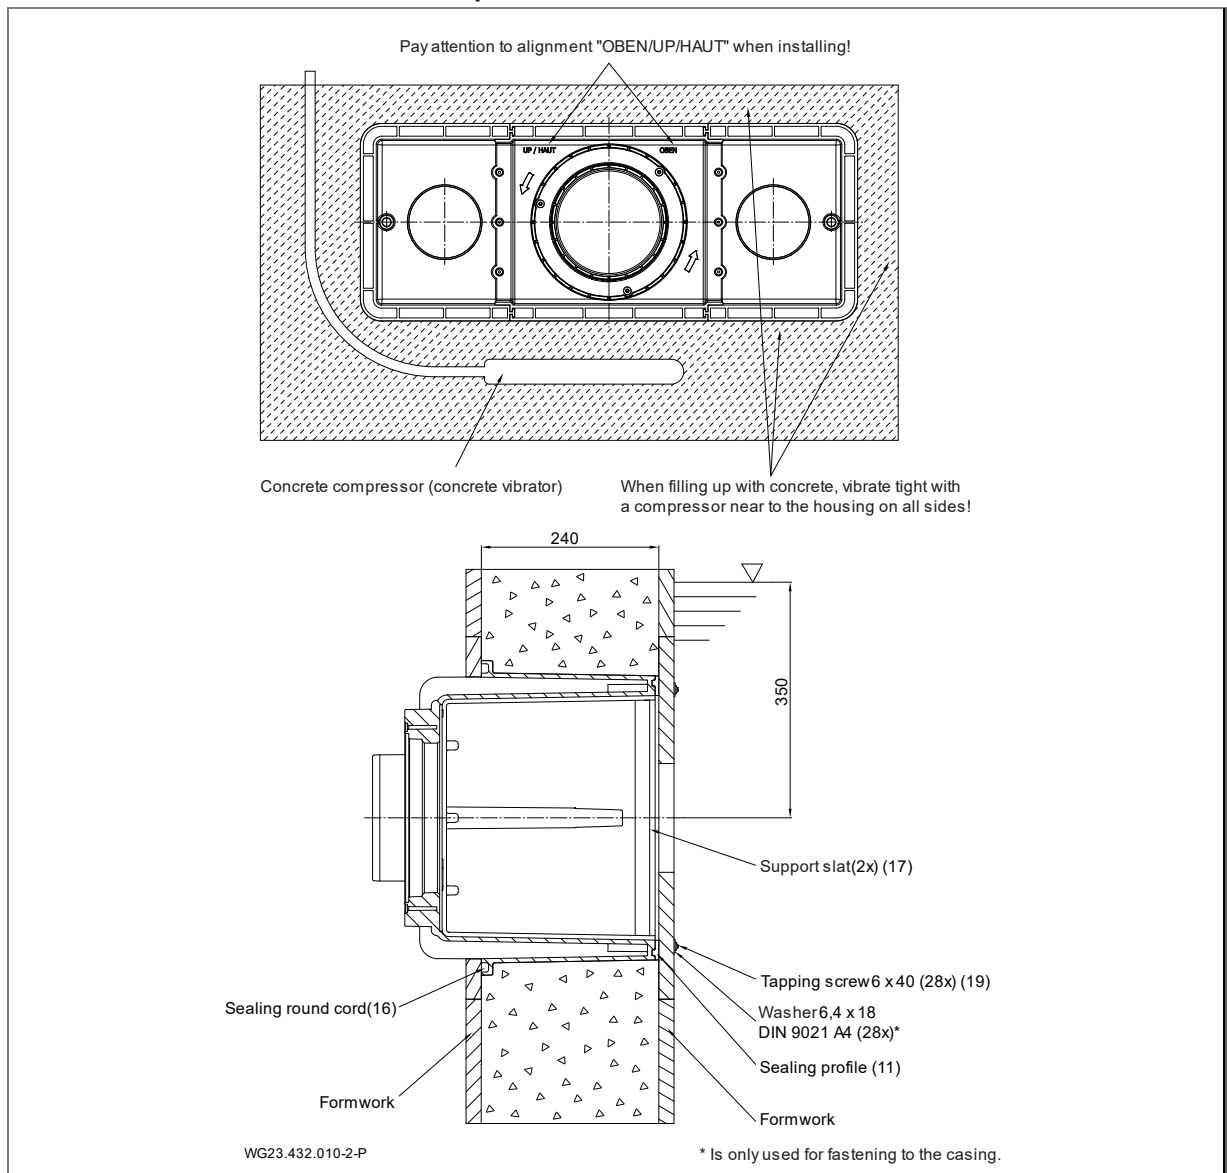

Fig. 6
It is recommended to lay a surrounding ring of epoxy resin/quartz sand at the pool-side outside wall of the housing (1) as a seal to the concrete wall. See "Fig. 6" on page 15